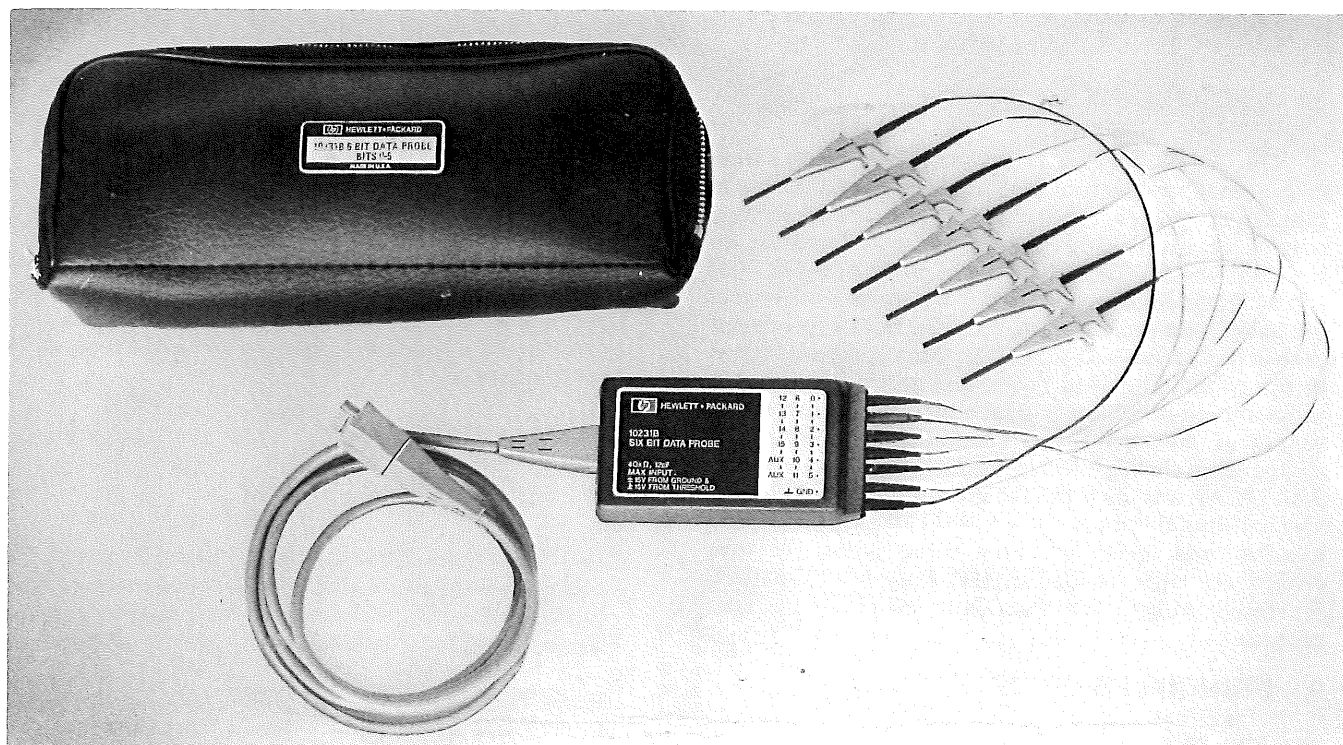

Figure 1. Model 10231B Six Bit Data Probe
2. This operating note provides operating and service information for the Hewlett-Packard Model 10231B Six Bit Data Probe (figure 1).